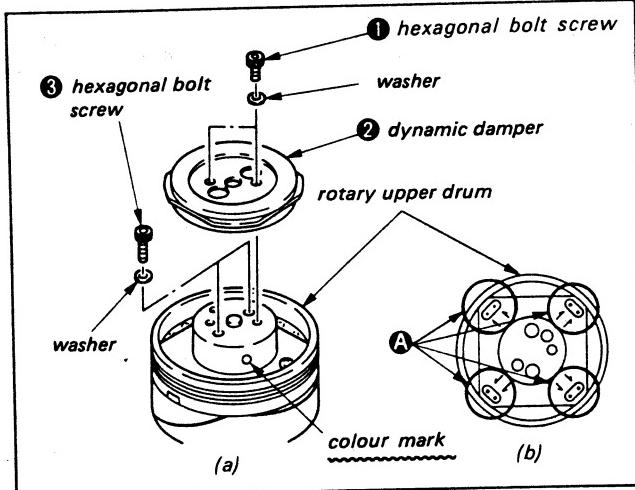

Fig. 3-42.
- There is a colour mark on the rotary upper drum, as shown in Fig. 3-42, so refer to the table below when replacing.
- 1) Remove the two hexagonal bolt screws ① and the dynamic damper ②. (Fig. 3-42)
- 2) Remove all 8 solders in section A and confirm that the board and the pins on the bottom can move freely, using tweezers or the like. (Fig. 3-42)
- 3) Remove the two hexagonal bolt screws ③. (Fig. 3-42)
- 6) Solder the pins in section A. (Fig. 3-42)
- 7) Mount the dynamic damper ② with the two screws ①. (Fig. 3-42)